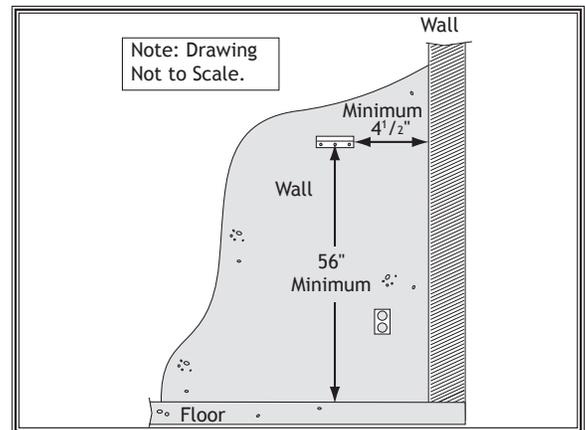

Figure 9. Wall bracket positioning.
2. Use wall bracket as a template to mark mounting hole locations. Bottom of bracket should be a minimum of 56" from floor and at least 4 1/2" away from any wall, as shown in **Figure 9**.